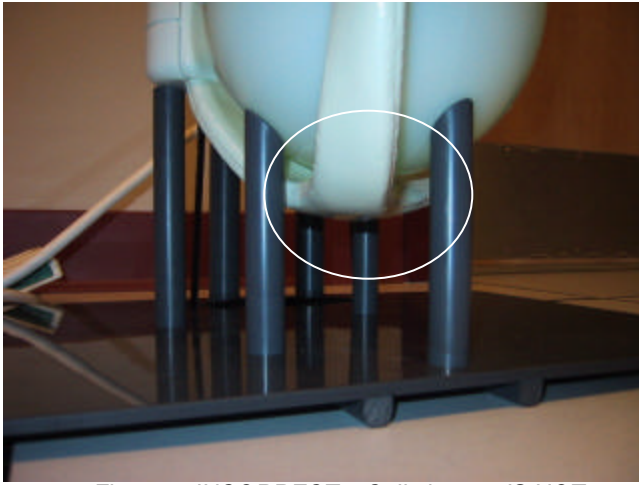

Figure 8: INCORRECT – Coil element IS NOT touching the phantom positioner pole.
- To avoid SNR dispersion, the coil element should touch to the phantom positioner pole (see *Figures 8 and 9*).